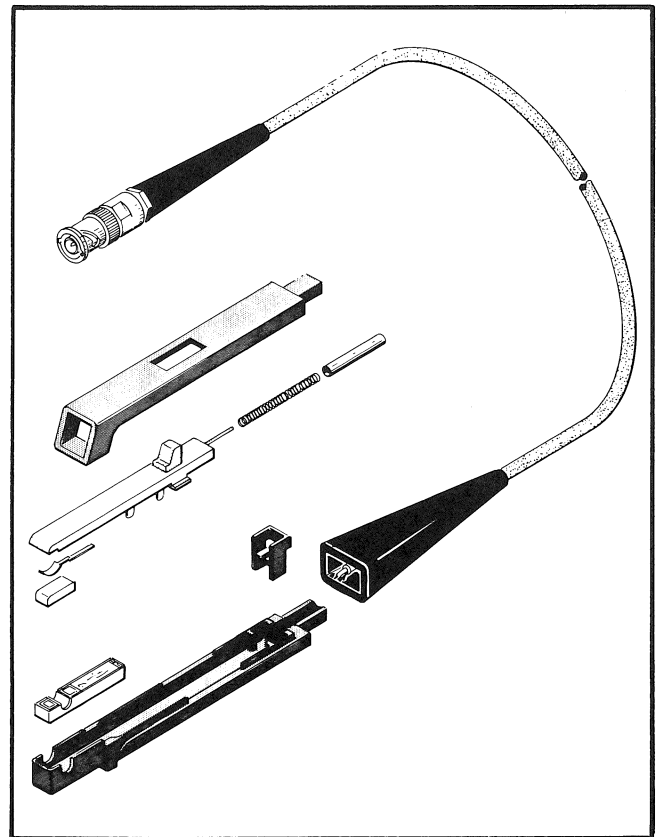

Fig. 5-3. Disassembled P6020 Probe.
6. Remove the cable, switch, and transformer assembly from the other half of the probe body. The P6020 Probe is shown disassembled in Fig. 5-3.